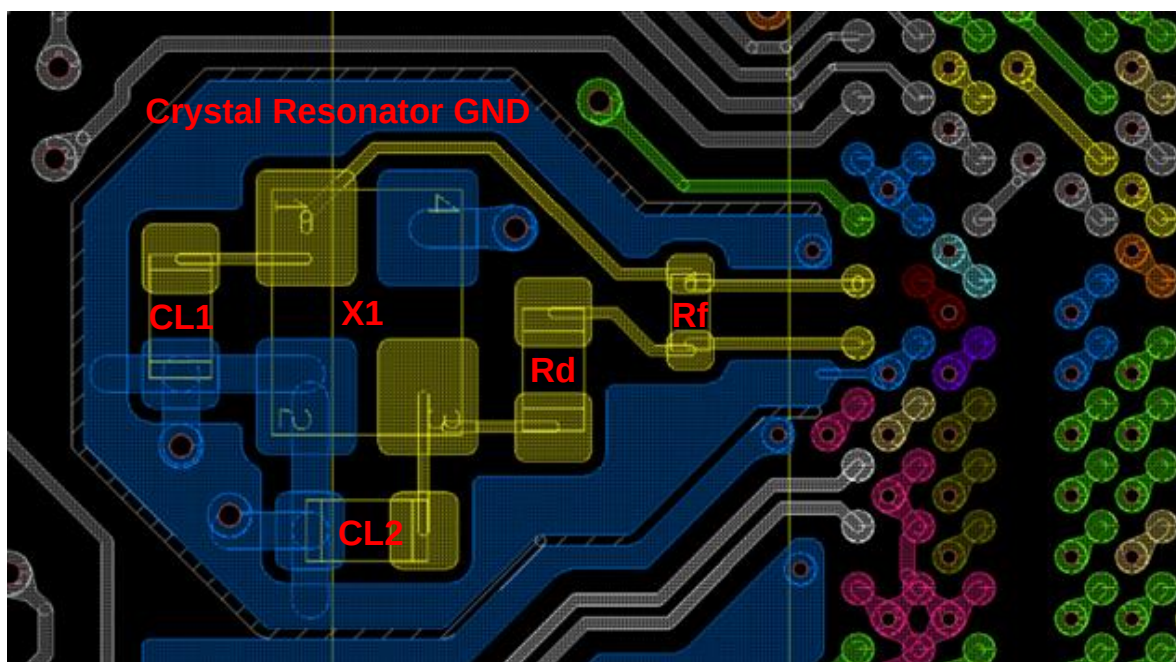

Figure 3.3 Example layout of the first layer (Layer1) of the P.C.B.
**Figure 3.3** shows an example PCB layout Layer1 for the crystal connection.